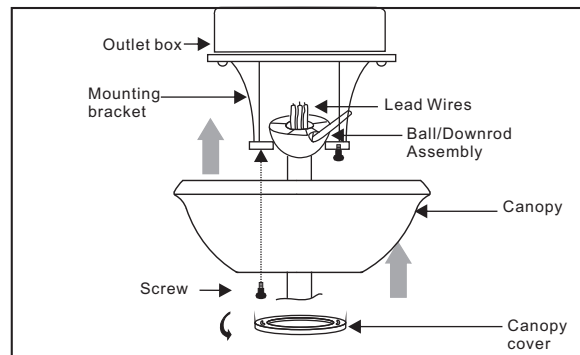

Figure 14
3. Align the canopy up to ceiling and over the loose screw. Place the canopy into key hole and rotate canopy clockwise. (Figure 14)
5. Place the canopy cover to the canopy and rotate canopy cover clockwise until it is locked into right position. (Figure 14)